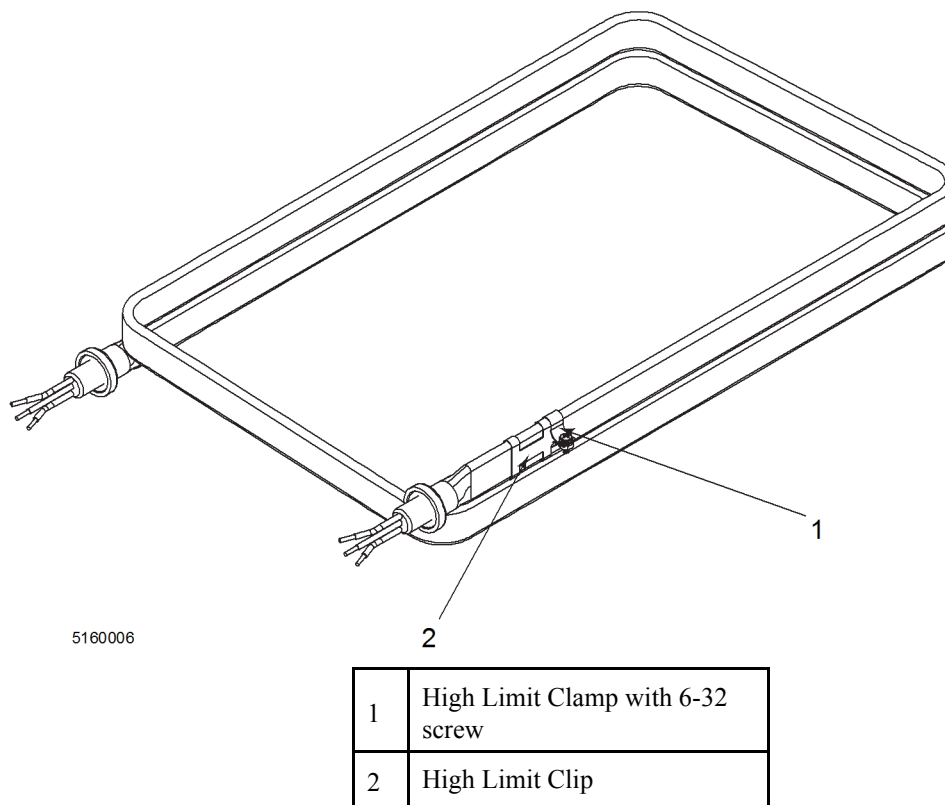

Figure 4-3 High Limit Clip and Clamp Install
- 3) Position one high limit clip (2) on the top front right side of both heating elements (see Figure 4-3 High Limit Clip and Clamp Install).
- 4) Position one high limit clamp (1) rear of the high limit clip (2) on the top front right side of both heating elements.